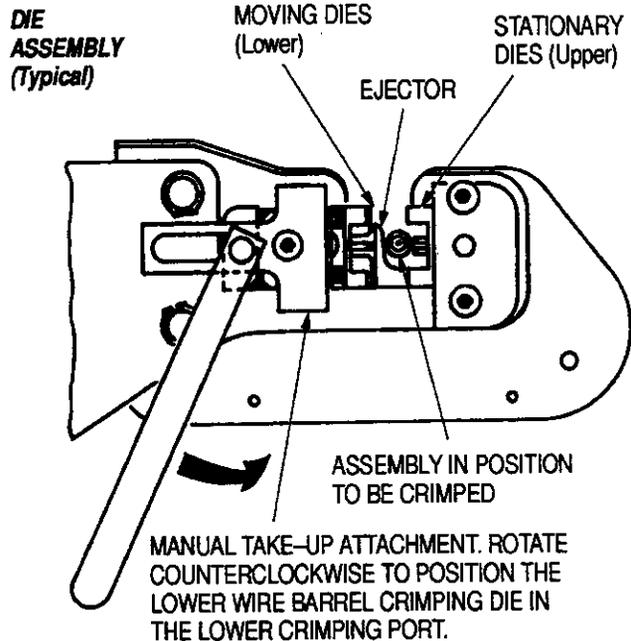

Figure 6
B. Die Assembly Application (Figure 6)